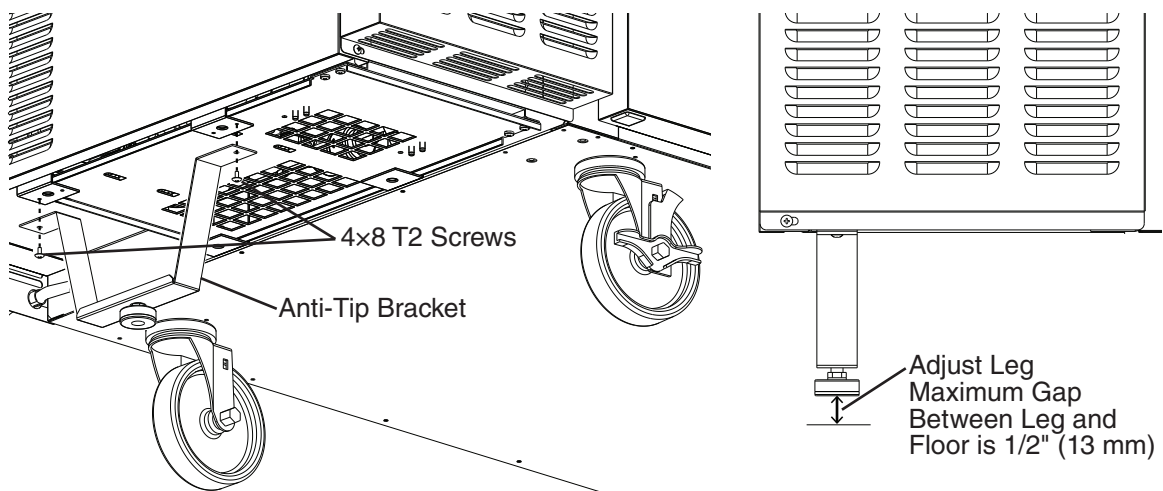

Fig. 2
- 1) Attach the anti-tip bracket to the bottom of the appliance with the two 4x8 T2 screws provided. See Fig. 2.